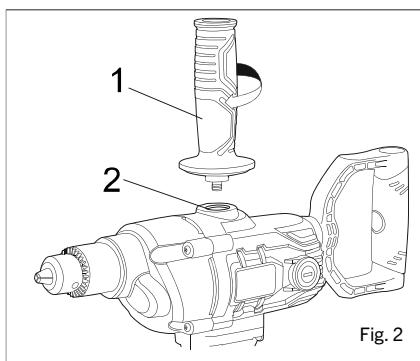

Fig. 2
To install the auxiliary handle (1), simply thread it **CLOCKWISE** into the threaded hole (2) in the top of the drill (Fig. 2).